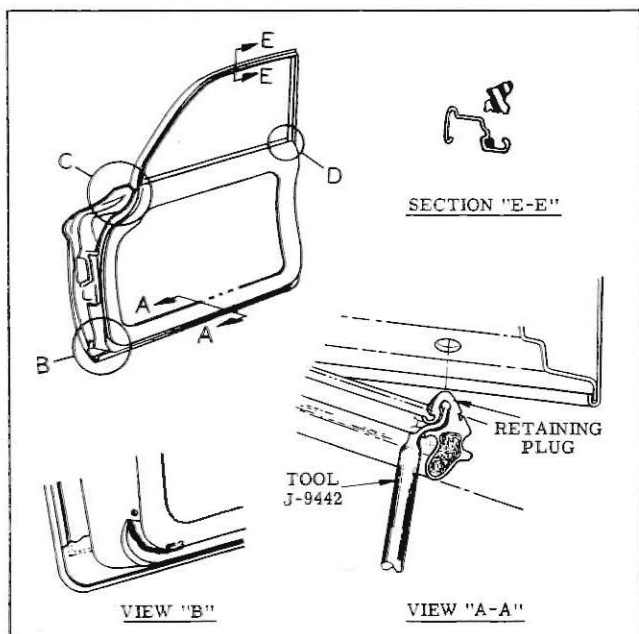

Fig. 6—Vinyl Weatherstrip Installation
Installation of the vinyl weatherstrip requires use of Weatherstrip Installer J-9442, now available from Kent-Moore Organization. J-9442 is designed specifically for installation of this type weatherstrip; see view "A-A" of Figure 6. An attempt to install the weatherstrip without a properly-designed tool will probably result in damage to the retaining plugs.
2. Apply a continuous bead of "Vinyl Weatherstrip Adhesive" along entire length of channel in door upper frame. Also apply a bead of cement for a minimum length of eight inches on door hinge pillar (cove area, see area "C" in Figure 6) and a minimum length of one inch on door lock pillar (see area "D" in Figure 6) and between retaining plugs at lower front radius of door (see view "B" of Figure 6).